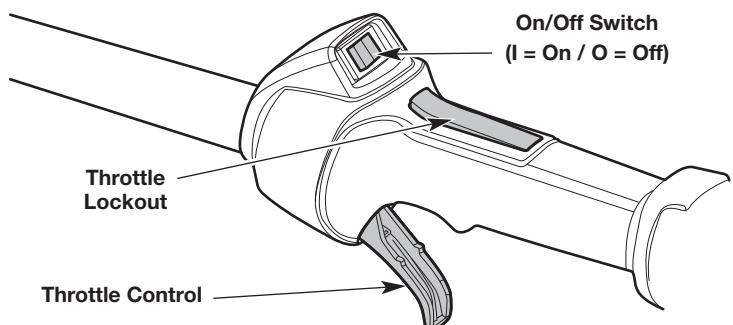

Fig. 15
**NOTE:** There is no need to turn the unit on. The On/Off switch is in the **On (I)** position at all times (Fig. 15).
3. Press and hold the throttle lockout (Fig. 15). Squeeze and hold the throttle control (Fig. 15).
2. Press and hold the On/Off switch in the **Off (O)** position until the engine comes to a complete stop (Fig. 15).
4. Press and hold the throttle lockout (Fig. 15). Squeeze and hold the throttle control (Fig. 15).